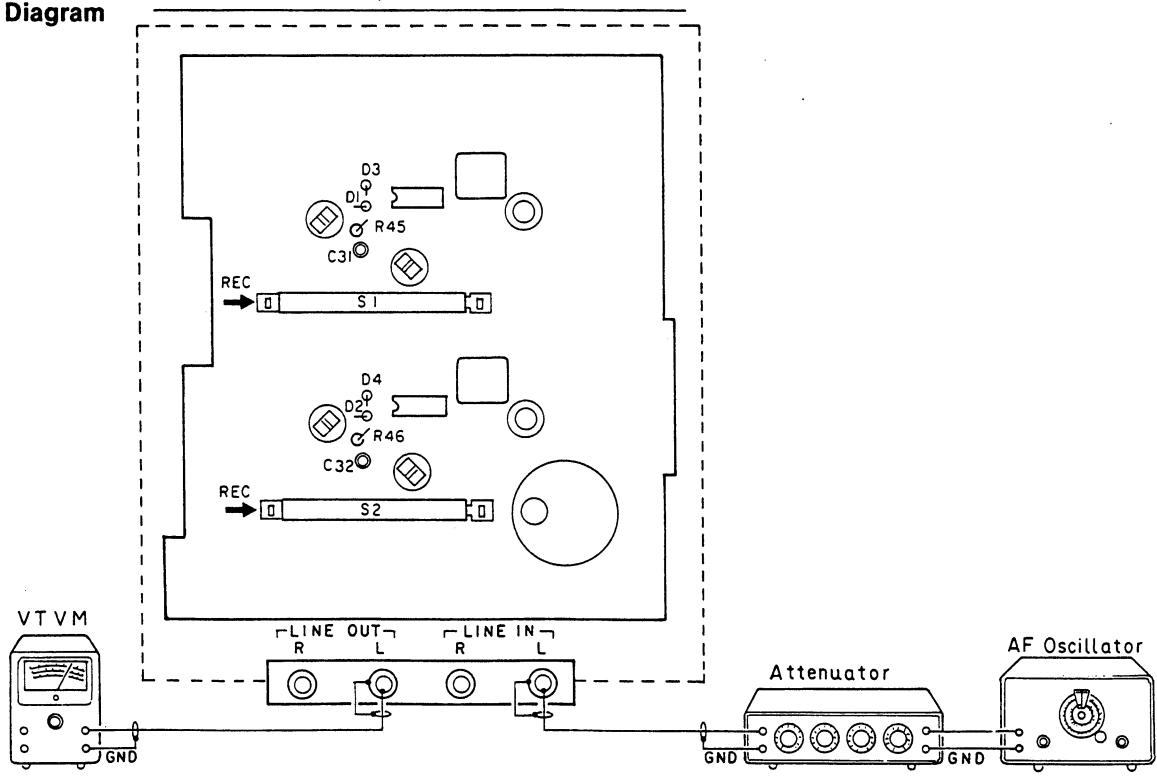

Fig. 9
1. Add a 400Hz, -20dBm signal at Line In. With the equipment in recording mode, adjust Record Level control so the output level of Line Out is 580mV/400Hz (show in Fig. 9).